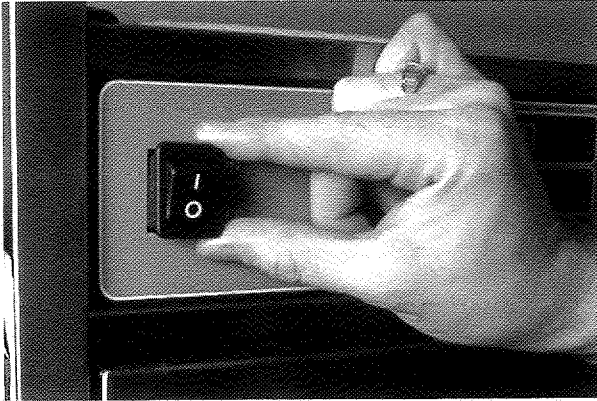

Figure 26
4. Squeeze in on the clips which hold the switch in place and pull out from the front. (See Figure 26)